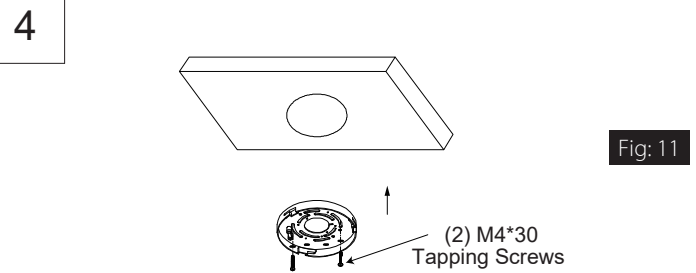

Fig: 11
4. Attach the Junction Adapter Plate onto the junction box with (2)M4\*30 Tapping screws (Fig. 11)